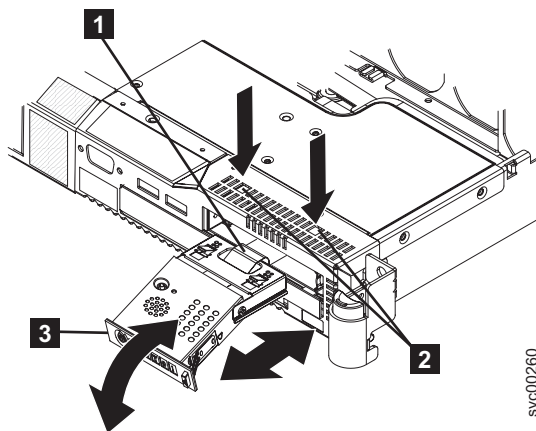

Figure 157. Removing the operator-information panel
10. Press the two release buttons (2 in Figure 157) that are visible through the top of the node and pull the assembly 3 completely out of the node. Carefully pull the attached light path ribbon cable 1 out of the server.